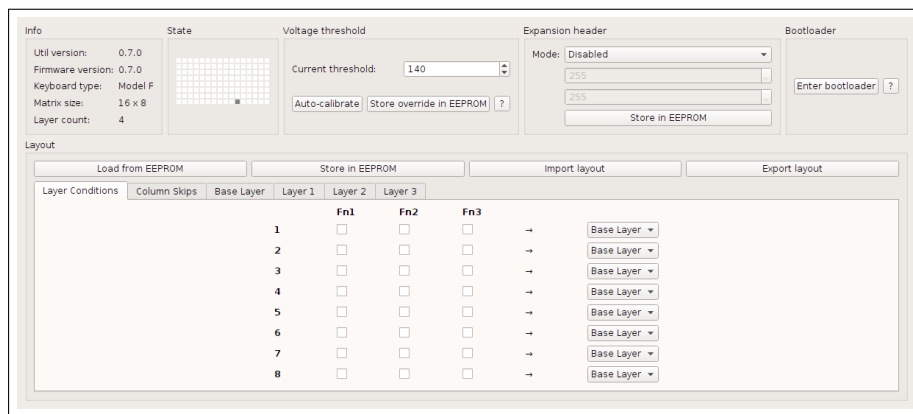

Figure 4: PC-AT keyboard with sense threshold correctly set
At some point, you will notice some keys will appear as pressed that don't correspond to physical keys. There are usually no more than 3 or 4 of these. These will come into play later on with auto-calibration. Figure 4 shows a keyboard with a calibration node registering at coordinates (11, 8). If your keys are registering correctly but you don't see a pressed “calibration key”, keep lowering the threshold—you will not be able to autocalibrate without finding one.
- You must set up a “condition” on the “Layer Conditions” tab; this allows setting up combinations of more than one Fn key—one example is shown in Figure 4 on page 8